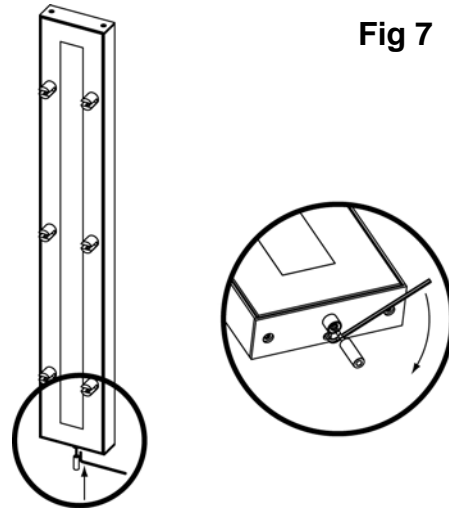

Fig 7
6. Insert the Hex head key (provided) into the hole on the plastic bottom cap and turn grub screw clockwise to tighten. This will secure the shelving unit to the wall (see Fig 7).